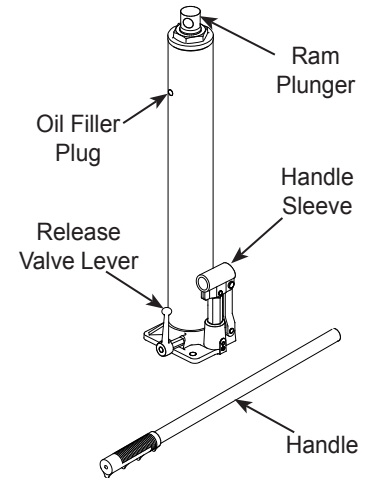

Figure 5 - Hydraulic Unit/ Ram
4. Remove hydraulic unit and position as shown in figure 5.